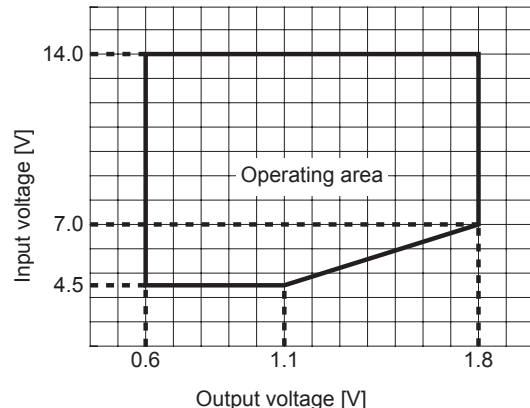

Fig.3.6 Operating area
- The output voltage should be set within the range of Figure 3.6 (only BRFS150 · BRDS150).